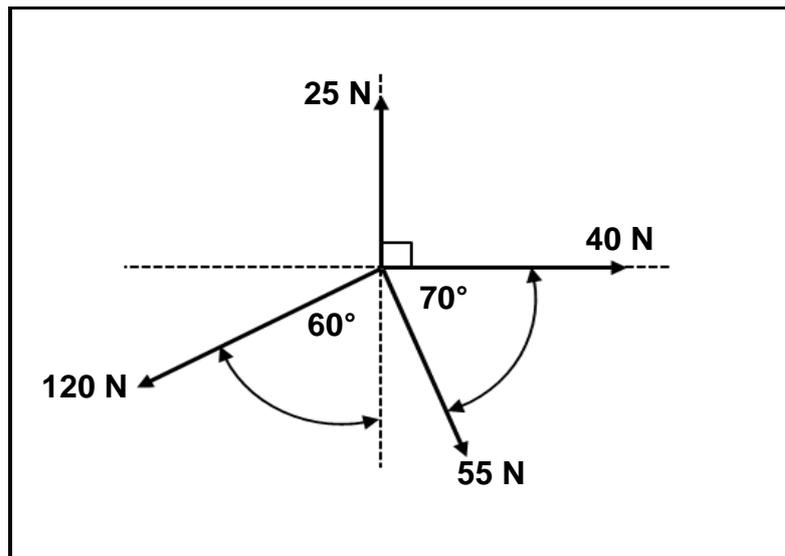

FIGURE 8.1
8.1 FIGURE 8.1 below shows a system of four forces acting on the same point. Answer the questions that follow.
HINT: Draw and complete the diagram for the forces shown in FIGURE 8.1. Show ALL the horizontal and vertical components before doing the calculations.